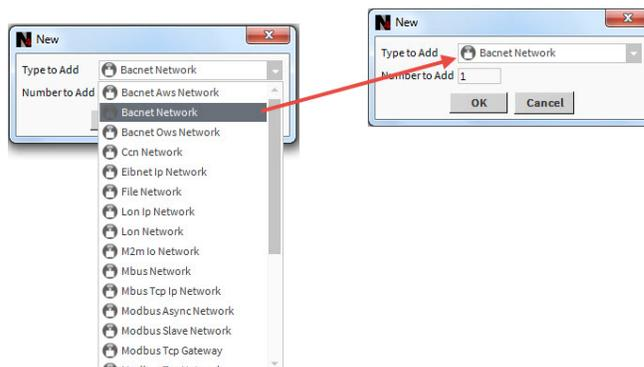

Figure 19: Selecting BACnet Network to add
- A window will pop out as shown in Figure 19, asking 'Type to Add'.